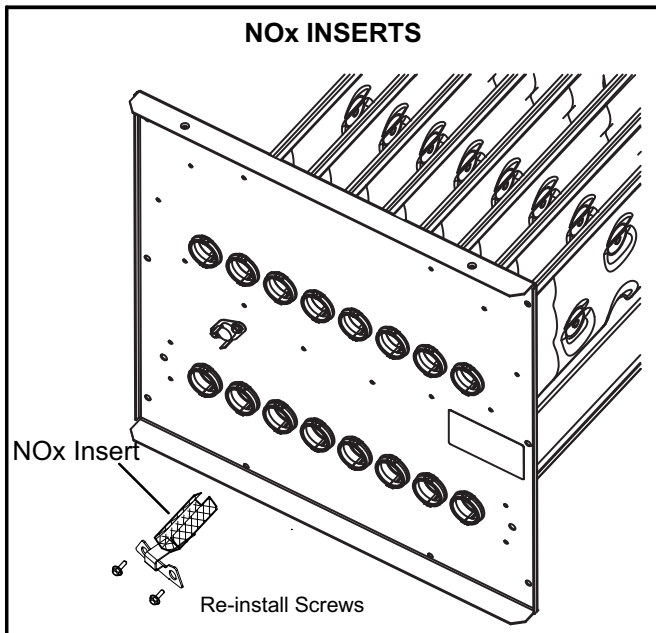

FIGURE 1
- 7 - **ML180(X), EL180(X) and 80AF1(X) NO_x units being converted from natural to LP /Propane.**
- b - Remove the screws which secure each of the NO_x inserts to the clamshell. **Remove the NO_x insert and reinstall the screws. See figure 1.**